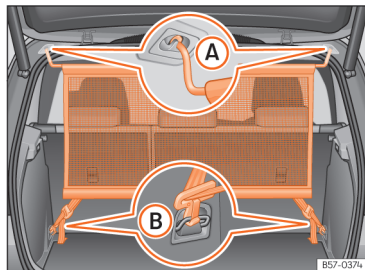

Fig. 175 Net partition fitted.
- Hook the net partition to the left-hand side roof housing »» Fig. 175 A. Be sure to pull the cross rod down past the upper position.
- Hook in the net partition on the rear right-hand side roof housing by pressing on the bar >>> Fig. 175 A.
- Secure two hooks of the partition net to the fastening rings of the boot >>> Fig. 175 B and tighten the straps firmly.